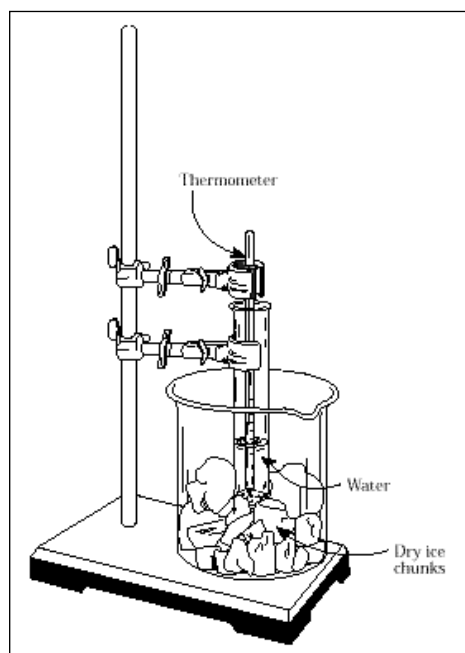

Figure 3. Freezing point apparatus
1. Construction of Apparatus. Assemble the apparatus shown in Figure 3. Use a 600-ml beaker as an outside, insulating beaker. You may want to place paper between the 600-ml beaker and the 400-ml beaker to better insulate the ice-water bath. Place about 300 ml of an ice-water slurry into the 400-ml beaker.
2. Preparation of Cyclohexane. Weigh (± 0.01 g) your clean, dry 200 mm-test tube in a 250-ml beaker. Add approximately 10 g of cyclohexane to the test tube and reweigh. Record these two masses on the Report Sheet. Place the test tube and cyclohexane in the ice-water bath (Figure 3). Secure the test tube with a utility clamp. Insert the thermometer and wire stirrer into the test tube. Make sure the thermometer extends down into the cyclohexane.